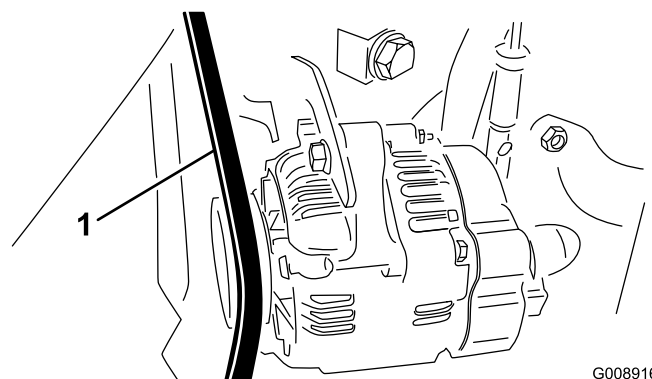

Figure 69
2. Check the tension by depressing the alternator/fan belt midway between the alternator and crankshaft pulleys with 22 lb (30 N-m) of force (Figure 69).